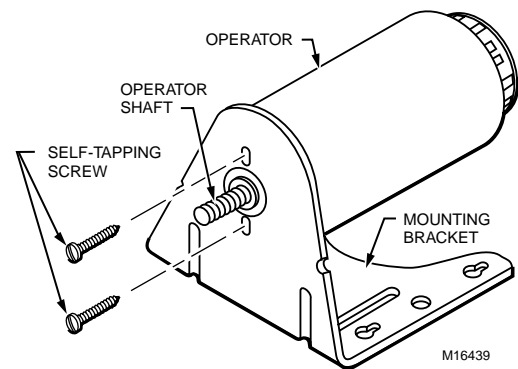

Fig. 2. Operator mounting.
5. Install operator on mounting bracket with two No. 8 x 1/2 self-tapping screws (see Fig. 2).